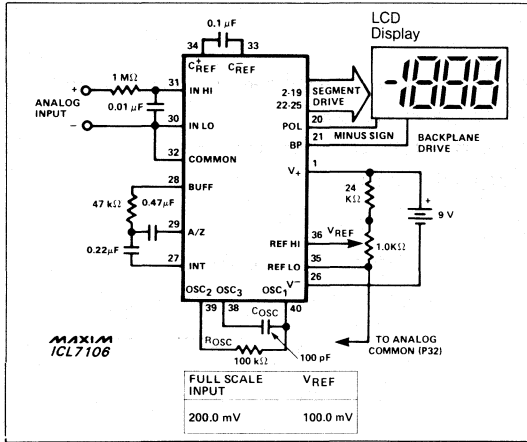
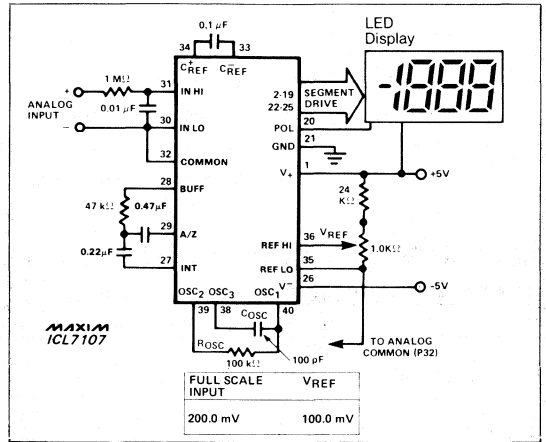

Figure 1. Maxim ICL7106 Typical Operating Circuit
Figure 2. Maxim ICL7107 Typical Operating Circuit
**Note 3:** Unless otherwise noted, specifications apply to both the 7106 and 7107 at TA = 25°C, fCLOCK = 48kHz. 7106 is tested in the circuit of Figure 1. 7107 is tested in the circuit of Figure 2.
( $V^+ = 9V$ ;  $T_A = 25^\circ C$ ;  $f_{CLOCK} = 48kHz$ ; test circuit - Figure 1; unless noted)
**Note 6:** Test condition is  $V_{IN}$  applied between pins IH-HI and IN-LO. i.e., 1M $\Omega$  resistor in Figures 1 and 2.
**Note 10:** 1M $\Omega$  resistor is removed in Figures 1 and 2.